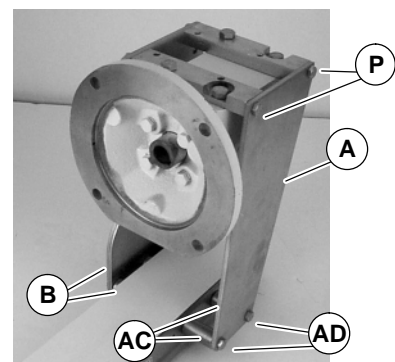

Figure 5
**NOTE:** 102mm and wider mounting assembly shown. 51mm and 76mm wide mounting assemblies include two spacer tubes (AC of Figure 5) and two long M6 screws (AD).
- 4b. For 51mm and 76mm wide conveyors, loosen (but do not remove) screws (P of Figure 5). Attach top mount assembly (A) to conveyor with two screws (B), spacer tubes (AC) and screws (AD). Tighten screws (B), (AD) and (P) to 10.4 Nm.